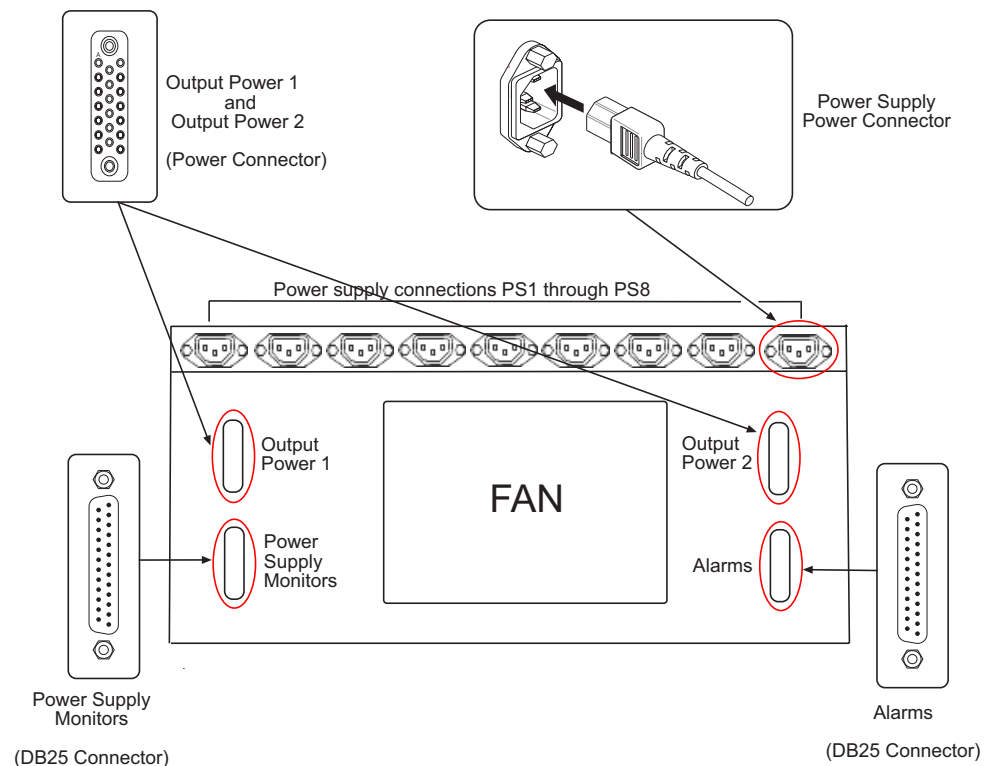

Figure 2-2. NV6257 Power Supply (Rear View)
- 3 Facing the rear of the **NV6257**, connect the power supply cable (WC0085) to 'Output Power 1', as shown in Figure 2-2.
- 5 Facing the rear of the **NV6257**, connect one end of the monitor cable (WC0046) to the ‘Power Supply Monitors’ connection, as shown in Figure 2-2 on page 36.
- 7 Facing the rear of the **NV6257**, connect power cords from an AC power source (90-130/180-230 VAC, 50/60Hz) into power connections *PS 1* through *PS 8*, as shown in Figure 2-2 on page 36. Connect one power cord for each PS6000 power supply module installed (see Step 8).
- 4 Facing the rear of the **NV6257**, using one of the two power supply cables (WC0085), connect one end of the cable to ‘Output Power 2’, as shown in Figure 2-2 on page 36.
- 6 Facing the rear of the **NV6257**, using the remaining power supply cable (WC0085), connect one end of the cable to 'Output Power 1', as shown in Figure 2-2 on page 36.